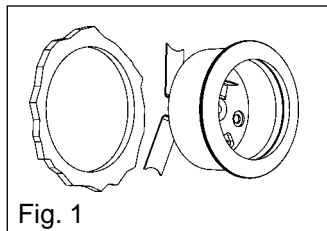

Fig. 1
- Insert complete swivel-flush cup with mounting clips first through opening. (Fig. 1)